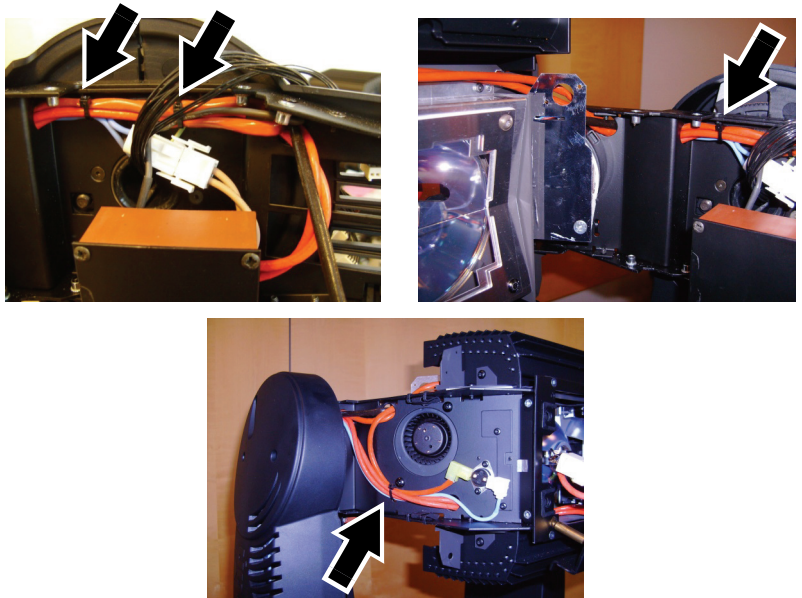

Figure 61
66. See Figure 61. Secure the lamp leads with cable ties.